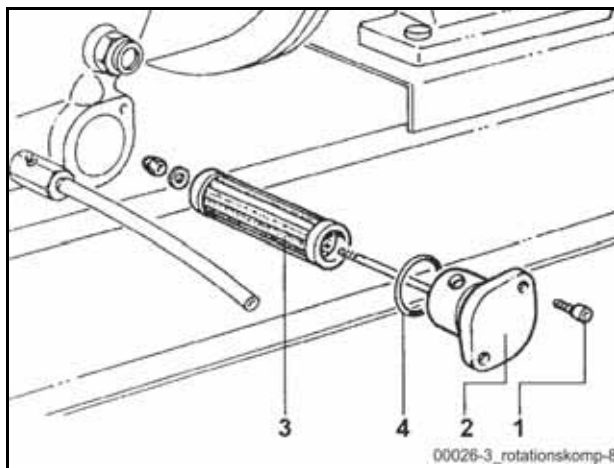

Fig. 353 Oil filter
- Loosen the screws **(1)** on the filter cover **(2)** (**Fig. 353**).